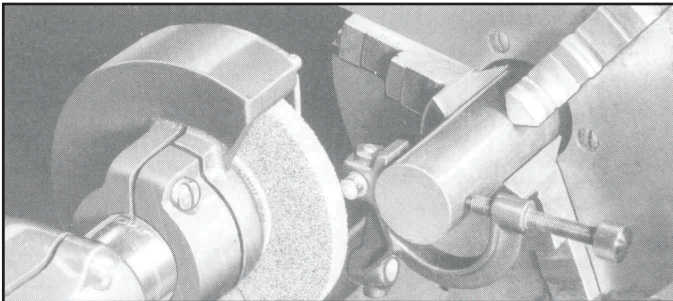

Figure 11
2. Insert the diamond into the right side slot so that it extends about 1/8" beyond the holder and faces the operator's right as illustrated in Figure 11.